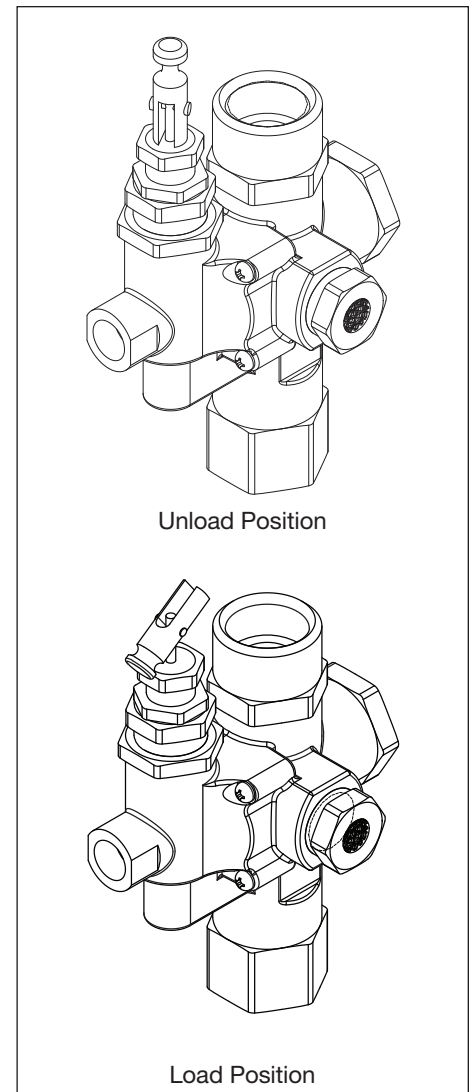

Figure 7 - Control valve
1. Set control valve to unloaded position (see Figure 7)
1. Set control valve to unload position (see Figure 7)
7. Move the control valve lever to the load position (see Figure 7). The compressor is now ready for use.